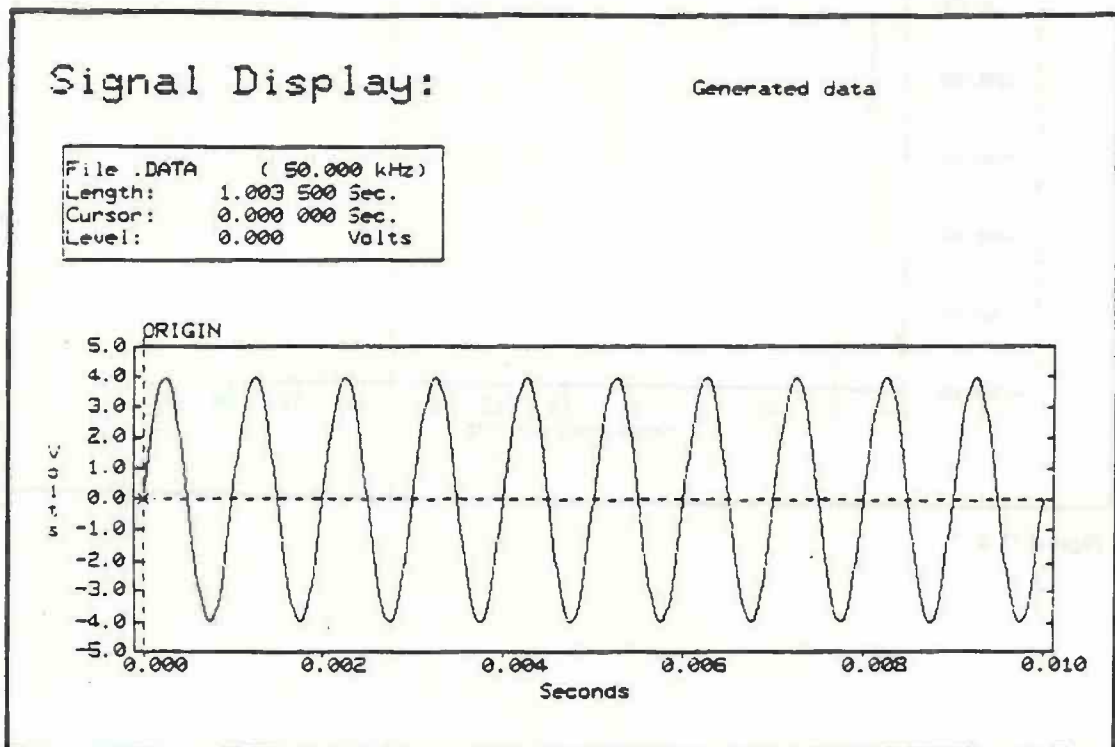

Figure 11.1
7. Press RETURN to see the signal display (Figure 11.1).